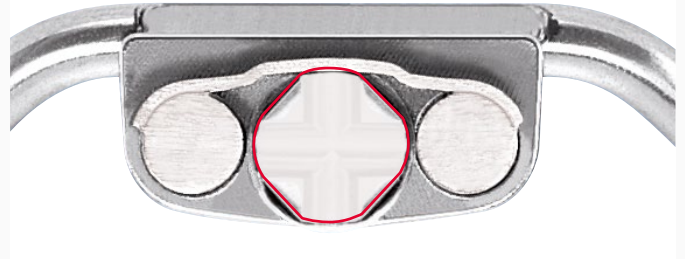

Fig. 1: Activation in progress (Spring under tension)
1. The Snap Lock Expander does not turn back unless the doctor or patient turns it back. After the activation of the spindle (Fig. 1), the flat spring snaps in (Fig 2).